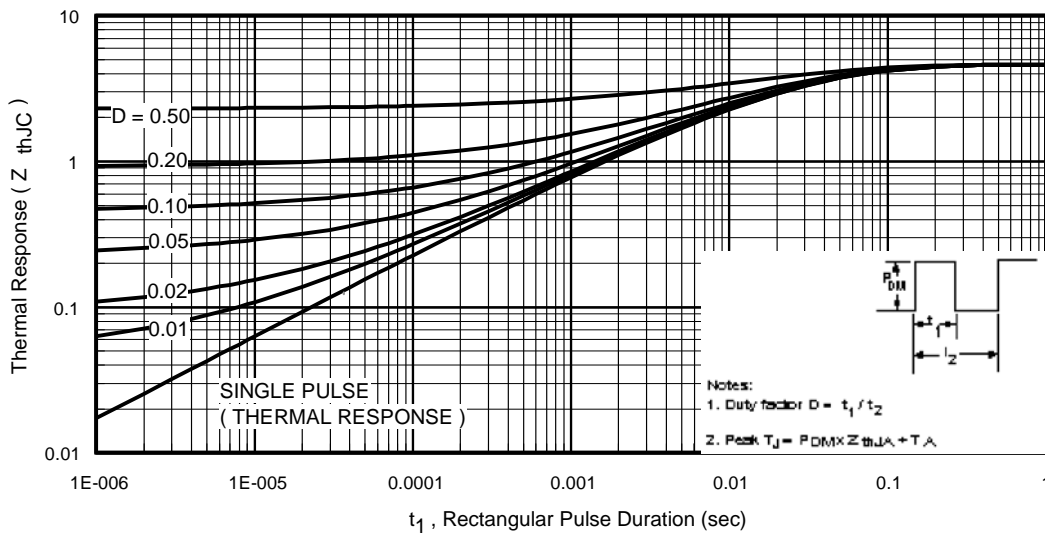

Fig 11. Maximum Effective Transient Thermal Impedance, Junction-to-Case
① Repetitive rating; pulse width limited by max. junction temperature. (See fig. 11)
② Starting $T_J = 25^\circ\text{C}$, $L = 51\text{mH}$